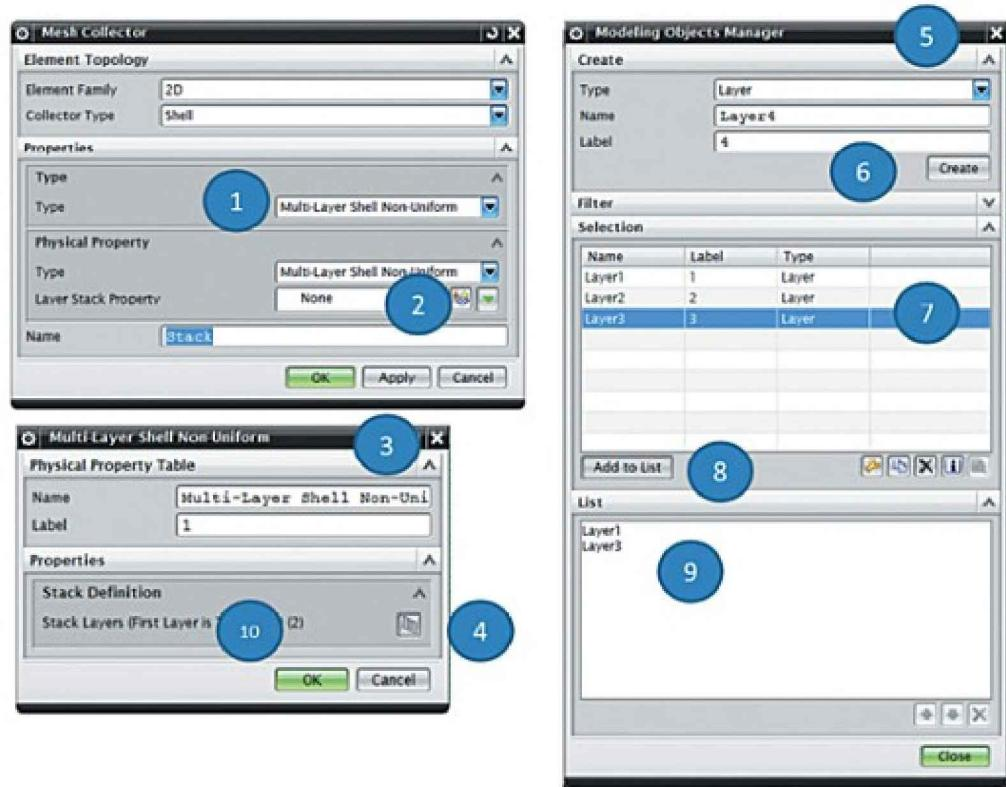

Figure 5.2. Multi-layer object creation procedure
1. Select *Multi-Layer Shell Non-Uniform* in the *Type* list of the **Mesh Collector** dialog box (Figure 5.2, 1).
2. Click *Create Physical* to open the **Multi-Layer Shell Non-Uniform** dialog box (Figure 5.2, 2 and 3).
3. Click *Create Stack Layers* (Figure 5.2, 4) to open the **Modeling Objects Manager** dialog box (Figure 5.2, 5).
4. Click **Create** to open the layer creation dialog box (Figure 5.2, 6).
6. Go to the **Modeling Objects Manager** dialog box and return to the created object in the **Selection** group (Figure 5.2, 7).
8. Click **Add to List** in the **Modeling Objects Manager** dialog box as shown in Figure 5.2, 8, then select relevant layers and create a sequence for them. This sequence is displayed in the **List** box (Figure 5.2, 9).
9. Click the **Close** button to return to the **Multi-Layer Shell Non-Uniform** dialog box. In the **Stack Definition** box a number in parentheses indicates the number of layers in this collector (Figure 5.2, 10). To modify the stack, click **Create Stack Layers** (Figure 5.2, 4). Click **OK** in the **Multi-Layer Shell Non-Uniform** to finish the multi-layer material creation and return to the **Mesh Collector** dialog box.